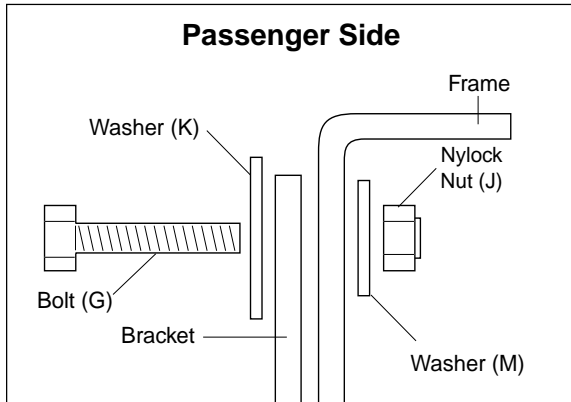

Figure 7
Upper Bracket installation on Passenger Side differs. Refer to Figure 7 for details.
*NOTE: The Passenger Side will use bolt (G), large washer (K) on the outside of the frame, washer (M) on the inside of the frame, and nut (J) to attach the upper bracket to the existing hole on the side of the frame (Figure 7).*